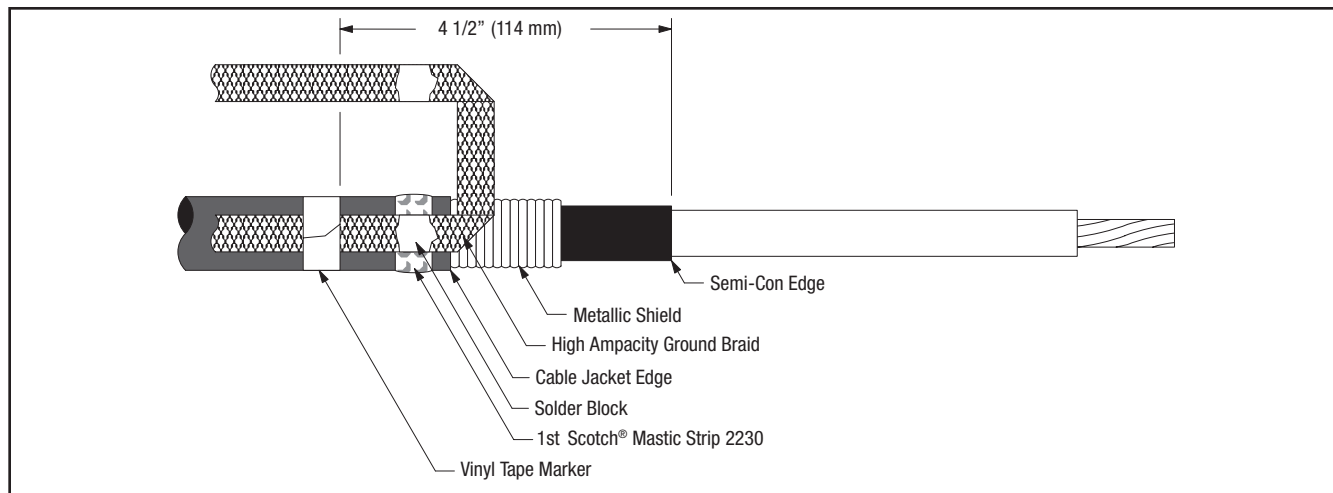

Figure 3
- 3.2 Position pre-formed high-amp ground braid with the “U” section over the metallic shield directly adjacent to cable jacket cut edge. Please Note: The ground braid needs to make full contact with the metallic tape shield. Position one tail of ground braid, extending over cable jacket with solder block over mastic strip (Figure 3). Secure high-amp ground braid to cable jacket 4 1/2" (114 mm) from cable semi-con edge using vinyl tape (Figure 3).